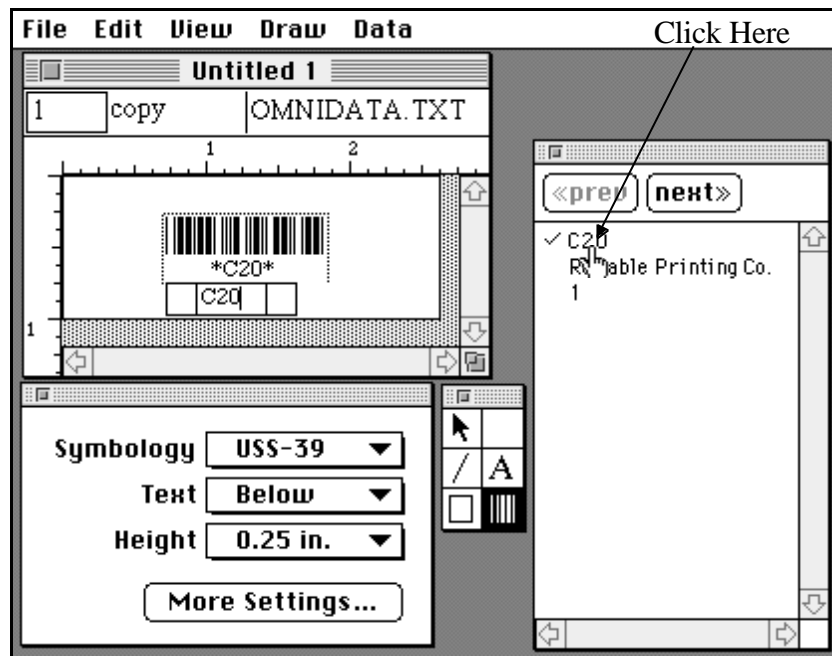

Figure 2-18 Selecting a Data Field From the Data Palette
- Click on the first data field in the data palette. The program automatically creates a bar code object in the work area. See Figure 2-18.